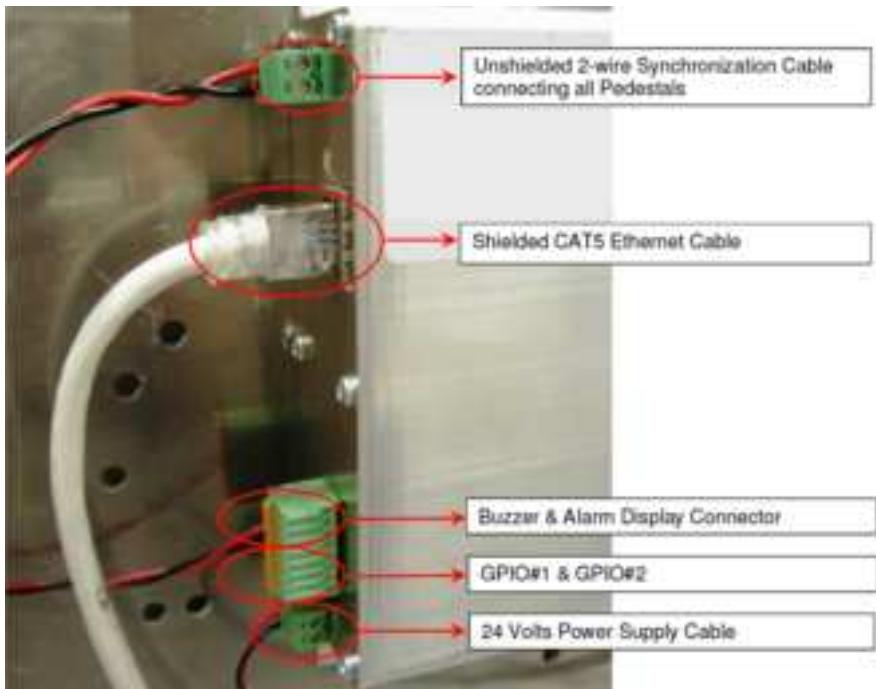

Figure 5.4: LSP3A-LR Clear PEM Connectors & Cables Location
First prepare a cable of appropriate length to connect 2 consecutive Electronics as shown in Figure 5.3 and Figure 5.4
Then unscrew the 4 screws to open the bottom plastic cover panel of each pedestal forming the aisle to gain access to the Product Electronic Module and connect the top 2-way connector as shown in Figure 5.4 thereafter.
2. Connect all pedestals Synchronization to the Synchronization I/O as shown on Figure 5.4.